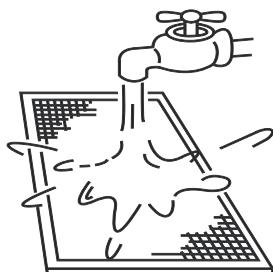

Figure 13.4
b. The air intake side should face down when using clean water. (Refer to Fig.13.4)